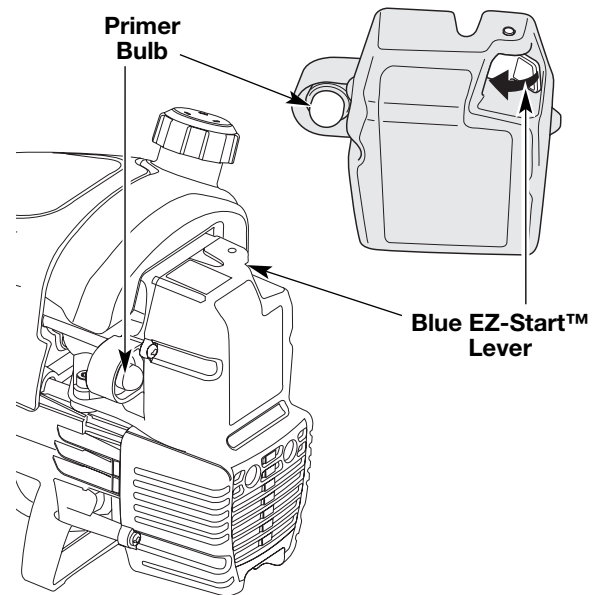

Fig. 17
2. Fully press and release the primer bulb 10 times, slowly. Some amount of **fuel should be visible in the primer bulb** and fuel lines (Fig. 17). If you can't see fuel in the bulb, press and release the bulb as many times as it takes before you can see fuel in it.
3. **Push the blue EZ-Start™ Lever towards the primer bulb** until it clicks and locks into place (Fig. 17).